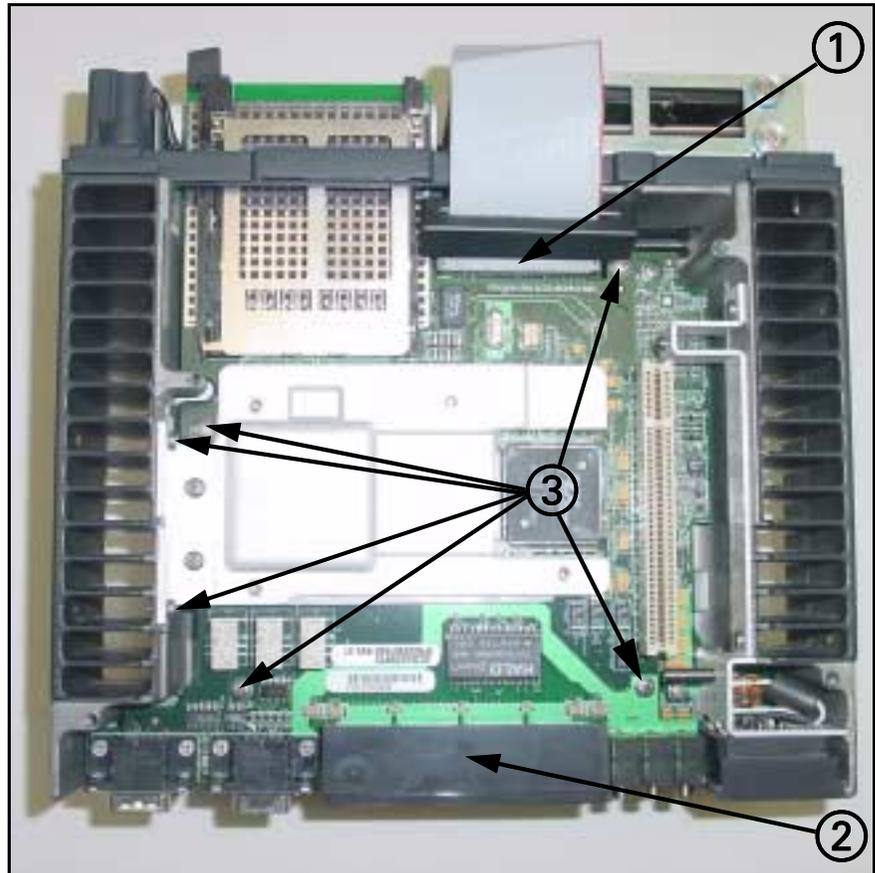

Figure 5-8 MDS (top cover removed)
1. Unplug ribbon cable connector (① in Figure 5-8) from mother board, and fold back.
2. Remove and save plastic ethernet cover (② in Figure 5-8).
3. Remove and save 6 Phillips-head screws (③ in Figure 5-8) that secure daughter board to mother board.